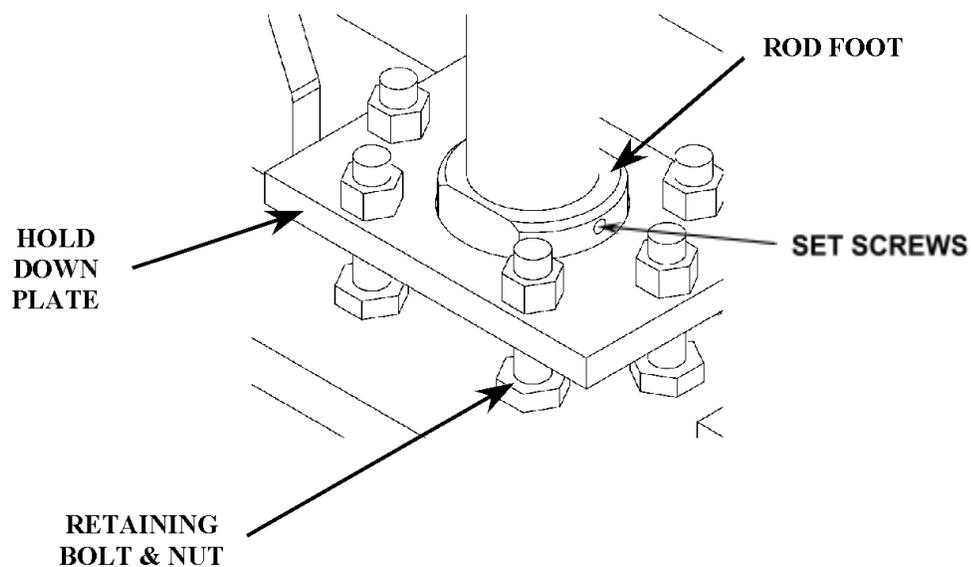
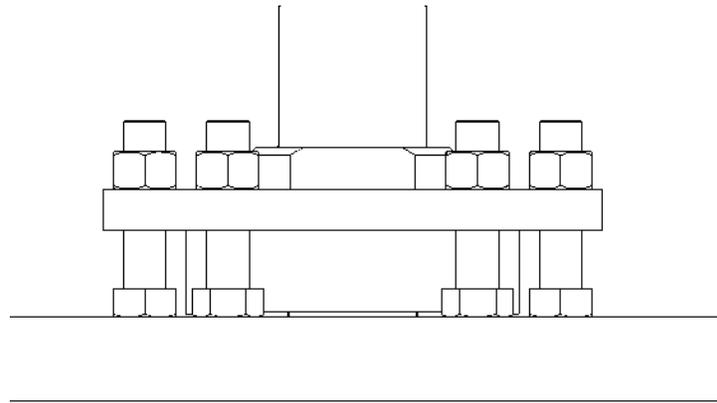

FIGURE 2 – Retaining Plate Assembly
FIGURE 4 – note the space between the rod foot and the top jaw beam.
- 1.3 The rod foot needs to be centered within the hold down plate. See figure 2.
- 2.17 Replace the nuts to the hold down plate. Do not over torque these nuts! A maximum torque of 25 lb-ft is suggested. The end of the cylinder rod will touch the jaw beam, but the rod foot will not. The rod foot is designed to float within the hold down plate to adjust for alignment. It should be centered in the hole of the hold down plate as explained in figure 2 above. See figure 4 for a front view of the floating rod foot design.